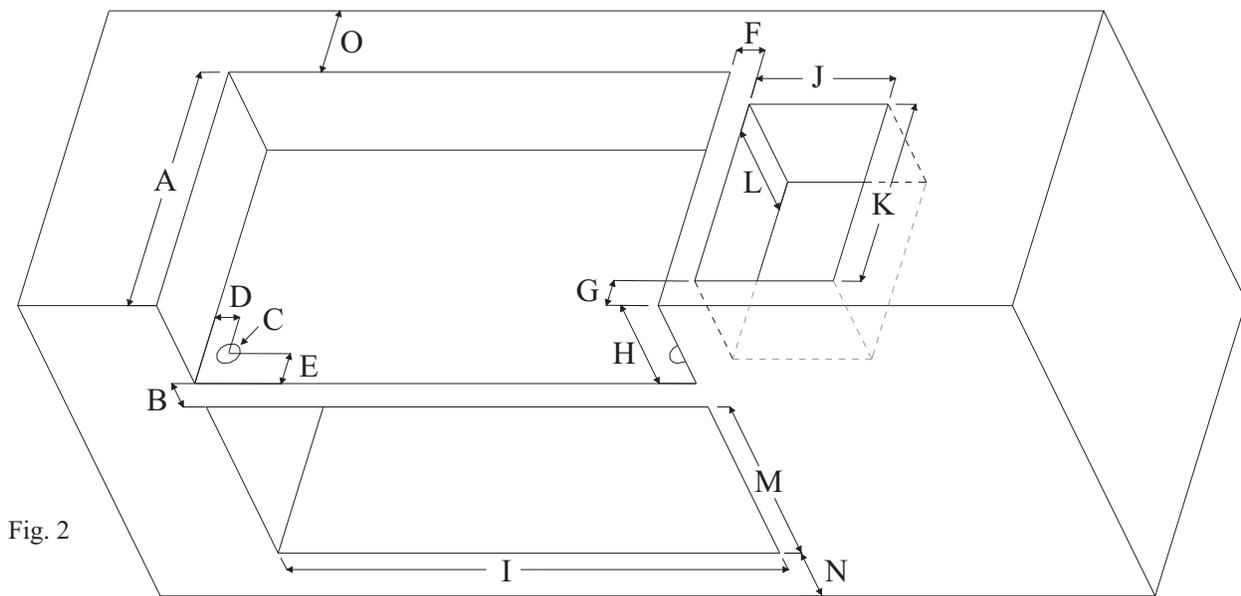

Fig. 2
**Note:** Ensure that your grill enclosure has been constructed according to the exact specifications shown in Fig. 2. If the enclosure is constructed of wood or other similar combustible materials, the use of the insulated jacket Model VCIJ35A or VCIJ50A is required.